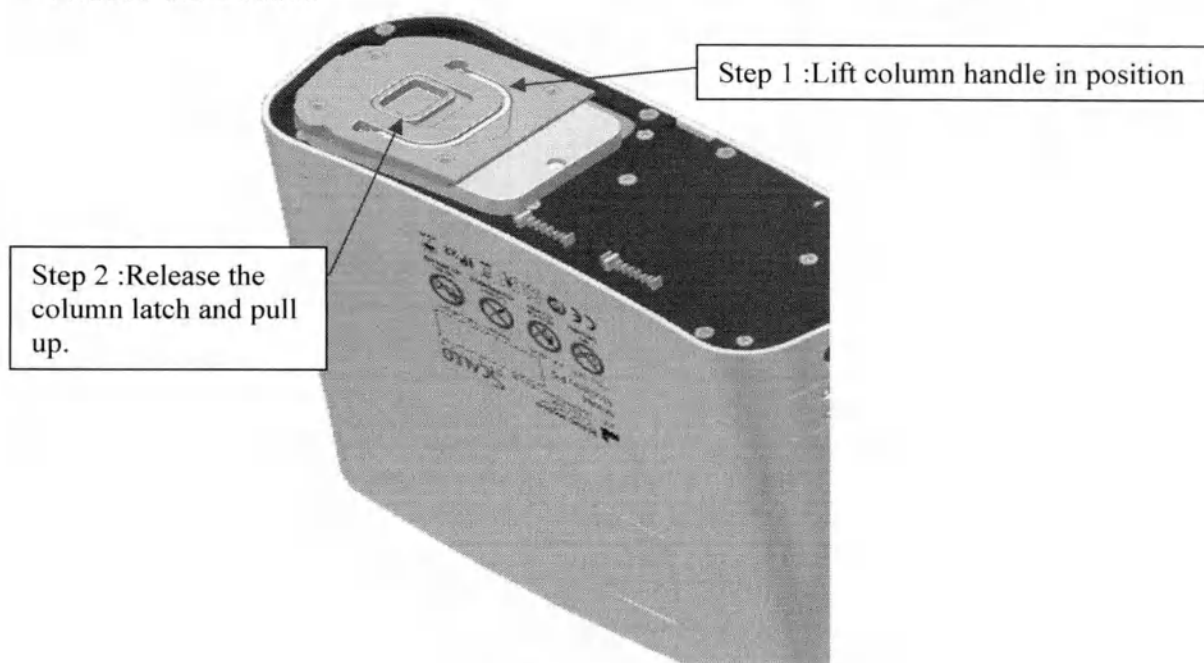

Figure 8: Zeolite column removal
1. Pull the Column Latch in Step 1 of Figure 8. Hold Column Latch in this position and pull the handle attached to the P5 Column as shown in Step 2 of Figure 8 to remove the column.